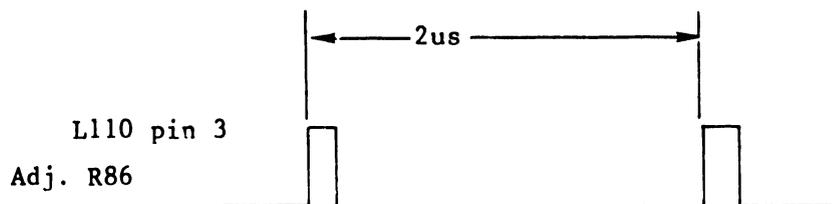

Figure 3-2
- A. Attach the channel 1 (oscilloscope) probe to L110 pin 3. Vertical deflection 2v/cm, Sweep rate .5us/div, Trigger internal positive slope on channel 1, Display channel 1 only. With the system reading sector 17385*, adjust R85 until a period of 2us is acquired (See figure 3-2).